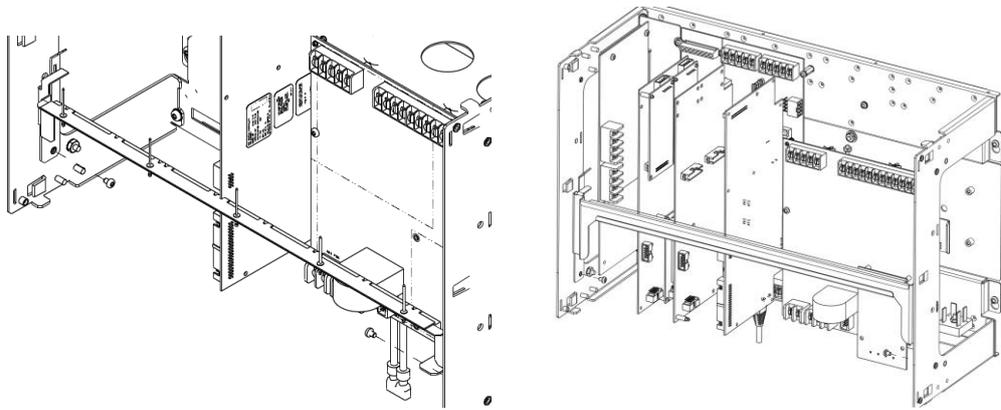

Figure 2 – Removing the old card restraint bar from the CPU bay (left), and replacing it with the new card restraint bar (right)
- Remove the card restraint bar in top bay. Replace with the card restraint bar supplied with the upgrade InfoAlarm+ door. See Figure 2.
- Remove the card restraint bar from the top bay. Replace with the card restraint bar supplied with the upgrade InfoAlarm+ door. Refer to Figure 2 for detail.